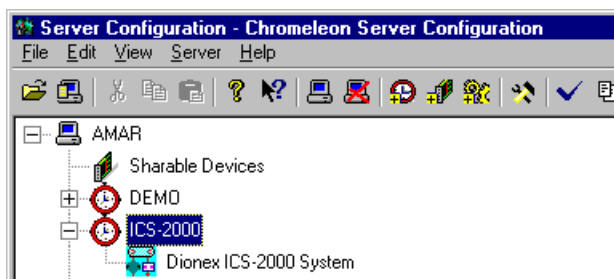

Figure 12. Server Configuration with ICS-2000 Timebase
- Click the + icon next to the server name to expand the folder. The timebase you created is displayed (see Figure 12).